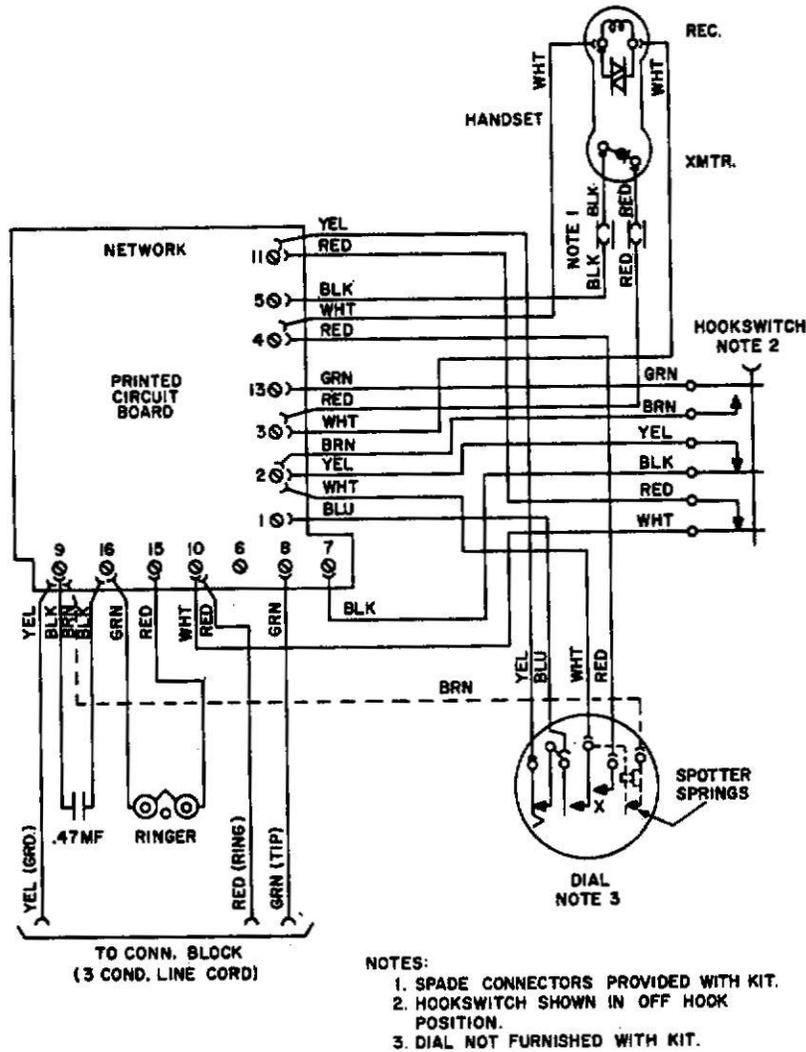

Figure 3. Wiring Diagram of Specialty Telephone Set Equipped With LM-625 Kit.
3.10 After verifying that the dial will fit into the cup, connect the dial leads as shown in Figure 3. When terminating the white lead, bend the shank of the spade terminal perpendicular to the dial base, so that it will clear the side of the mounting cup. If an SATT identity dial is required, add a brown lead from the spotter contact terminal and connect it to network terminal 9.